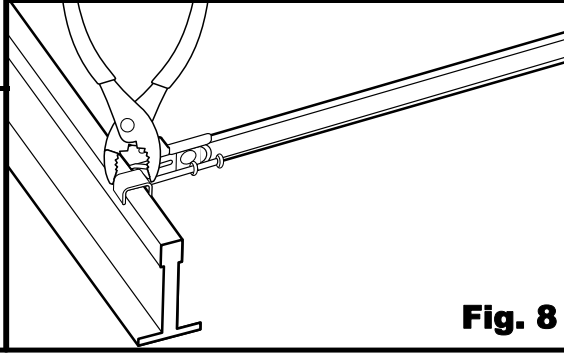

Fig. 8
4. Ensure the frame sits evenly inside the T-bar ceiling grid. Secure the frame to the suspended ceiling grid by using pliers to secure the tabs on the ends of the hanger bars. [Fig. 8]